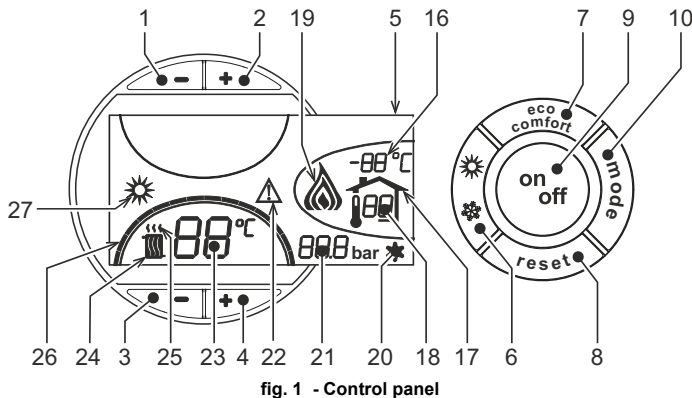
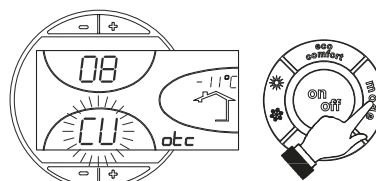
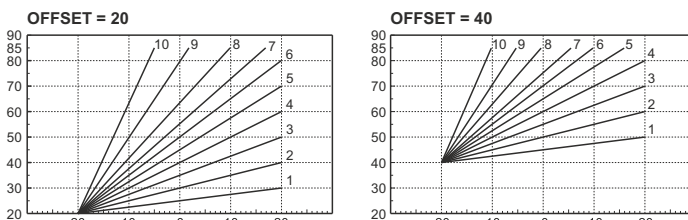

fig. 1 - Control panel
fig. 9 - Compensation curve
fig. 12 - Example of compensation parallel curve offset
Press the **on/off** button (detail 9 - fig. 1) for 1 second.
To relight the boiler, press the **on/off** button (detail 9 - fig. 1) again for 1 second.
- Press the ON/OFF button (9 - fig. 1)
Press the **summer/winter** button (detail 6 - fig. 1) for 1 second.
The display activates the Summer symbol (detail 27 - fig. 1): the boiler will only deliver domestic hot water. The antifreeze system remains activated.
To deactivate the Summer mode, press the **summer/winter** button (part. 6 - fig. 1) again for 1 second.
Use the **heating** buttons (details 3 and 4 - fig. 1) to adjust the temperature from a min. of 30°C to a max. of 80°C.
Use the DHW buttons -/+ (details 1 and 2 - fig. 1) to adjust the temperature from a min. of 10°C to a max. of 65°C.
When the optional external probe is installed the control panel display (detail 5 - fig. 1) shows the actual outside temperature read by the probe. The boiler control system operates with "Sliding Temperature". In this mode, the temperature of the heating system is adjusted according to the outside weather conditions, in order to ensure high comfort and energy saving throughout the year. In particular, as the outside temperature increases, the system delivery temperature is decreased according to a specific "compensation curve".
With Sliding Temperature adjustment, the temperature set with the heating buttons -/+ (details 3 and 4 - fig. 1) becomes the maximum system delivery temperature. It is advisable to set a maximum value to allow system adjustment throughout its useful operating range.
Press the **mode** button (detail 10 - fig. 1) once to display the actual compensation curve (fig. 9), which can be modified with the **DHW** buttons (details 1 and 2 - fig. 1).
Press the **heating** buttons (details 3 and 4 - fig. 1) to access parallel curve offset (fig. 12), modifiable with the **DHW** buttons (details 1 and 2 - fig. 1).
Press the **mode** button (detail 10 - fig. 1) again to exit parallel curve adjustment mode.
If the Remote Timer Control (optional) is connected to the boiler, the above adjustments are managed according to that given in table 1. Also, the control panel display (detail 5 - fig. 1) shows the actual room temperature detected by the Remote Timer Control.
Eco/Comfort selection	On disabling DHW from the Remote Timer Control menu, the boiler selects the Economy mode. In this condition, the button 7 - fig. 1 on the boiler panel is disabled.
On enabling DHW from the Remote Timer Control menu, the boiler selects the Comfort mode. In this condition it is possible select one of the two modes with the button 7 - fig. 1 on the boiler panel.